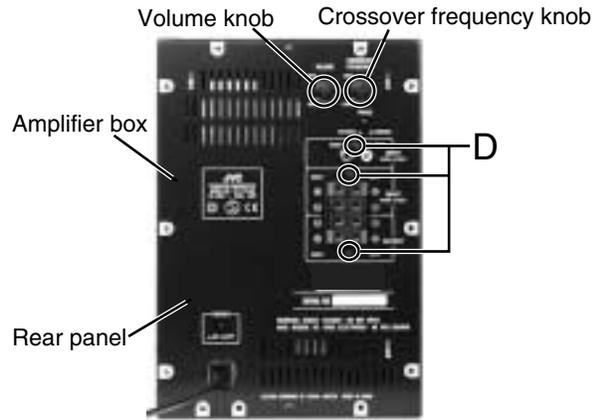

Fig.9
■ Removing the rear panel (See Fig.9)